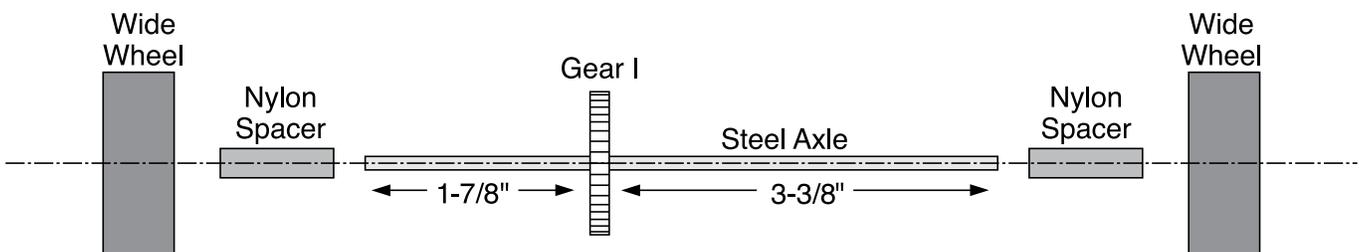

Figure 4
3. Place the gear on a table. Insert one of the steel axles into the gear. Slide the gear 1-7/8" from one end of the axle. It should be 3-3/8" from the other end of the axle (Figure 4).
4. Slide two nylon spacers onto the axle, one on each side of the gear (Figure 4).